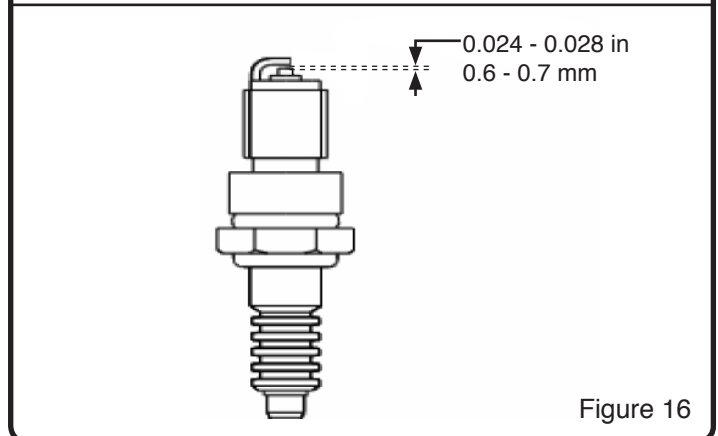

Figure 16
6. Check that the gap of the spark plug is 0.024-0.028 in. (0.6-0.7 mm). (See Figure 16)